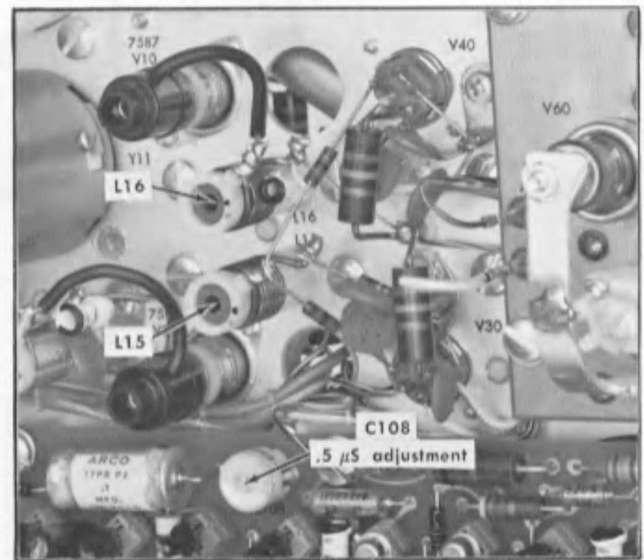

Fig. 6-9. .5 μs marker adjustment C108 and 50 MHz (20 ns) adjustment L16, L15.
- Adjust C108 (Fig. 6-9) for one .5 μS time marker per division.